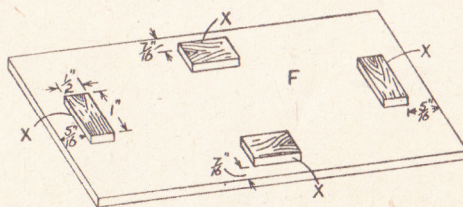

Fig. 4—Dimensions for the top and bottom
$8\frac{1}{8}$ ins. by $3\frac{1}{8}$ ins., as indicated in (E) Fig. 4, and the positions of the blotting paper and emery cloth are also indicated. The blotting paper and emery cloth are fixed by a little glue applied along the edges.
Next cut four pieces of plywood 1 in. by $\frac{1}{2}$ in., and carefully glue them on the underside of the lid, in the positions shown in (F) Fig. 4. The edges of the pieces marked (X) in view (F) Fig. 4, are carefully filed until the lid fits nicely in position on the box top.
cemented together, but merely laid end to end, and the trench in which they lie must be filled with light soil, not heavy impervious clay. With small lawns one pipe taken diagonally across with a branch to each corner will generally do all that is required (Fig. 4). Bigger lawns need more considered treatment.